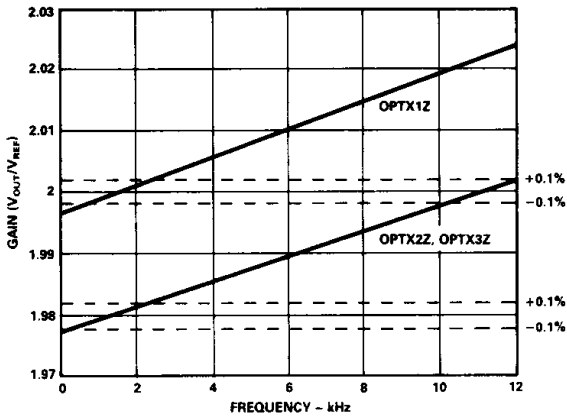

Figure 4. Gain ( $V_{OUT}/V_{REF}$ ) vs. Frequency
The gain (input to output SIN, COS voltages) of the standard part is  $\times 2 \pm 0.1\%$  (Option X1Z) over the frequency range dc to 2.6 kHz. As can be seen from Figure 4, the gain at 10 kHz is  $\times 2.02 \pm 0.1\%$ .
2.6 kHz. From Figure 4 can be seen that the gain for the autonull part is typically  $\times 2 + 0.1\%$  at 10 kHz.